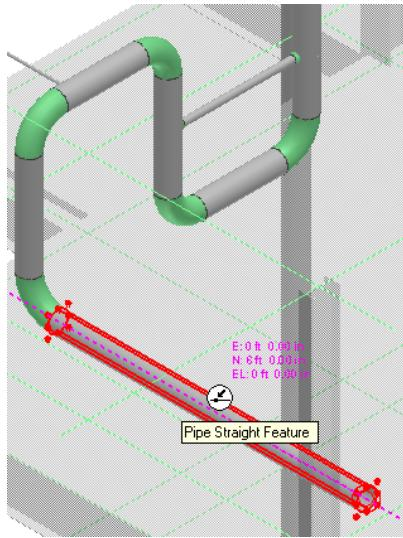

Figure 39: Pipe Straight Feature
64. Now, position the cursor along the **Pipe Straight Feature**, as shown in Figure 39, and click to define the active placement point.